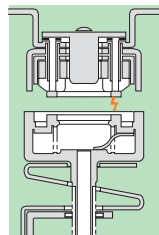

Fig. 3
- the arcing contacts open shortly after the main contacts. The resulting arc is made to rotate between the two circular runners of the arcing contacts by the electromagnetic field produced by the coil, the force of which depends on the current to be interrupted (fig. 3).